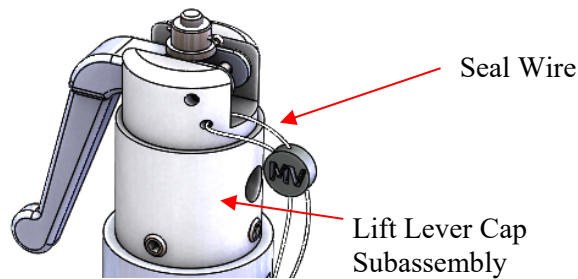

Figure 36: Lift Lever Cap
1. Cut and remove the seal wire. See Figure 36.